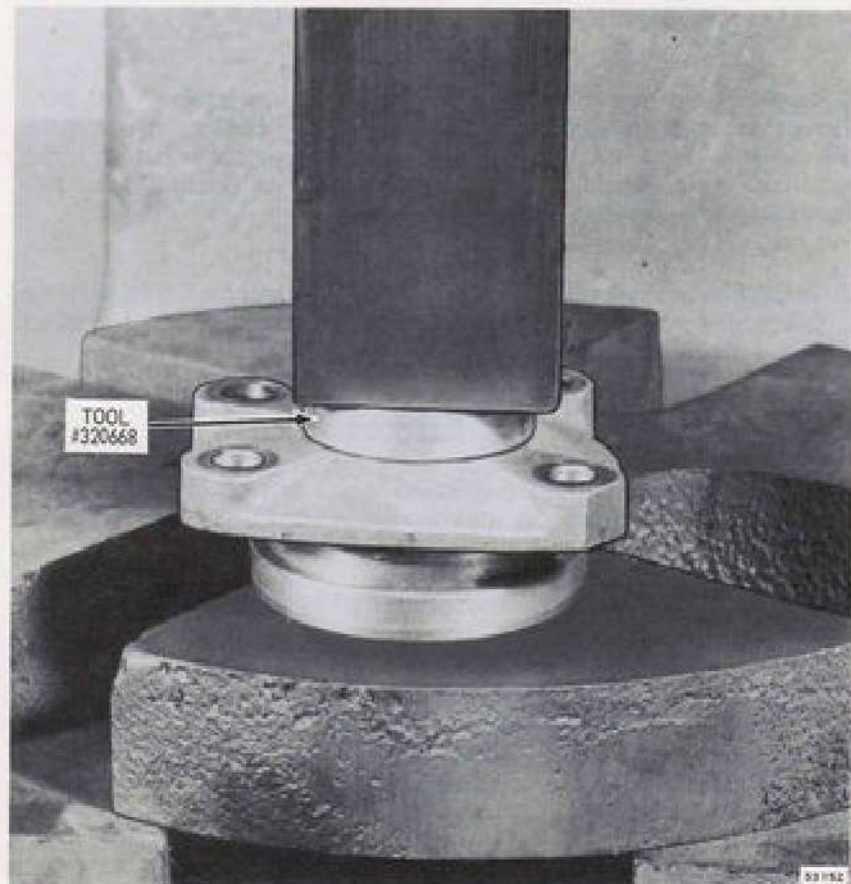

Figure 6-34. Installing Seals
a. DRIVESHAFT SEAL HOUSING. If removed, install two new seals back to back (lips facing away from each other) in driveshaft seal housing using installer (Special Tool #320668) and an arbor press. See Figures 6-34 and 6-35.